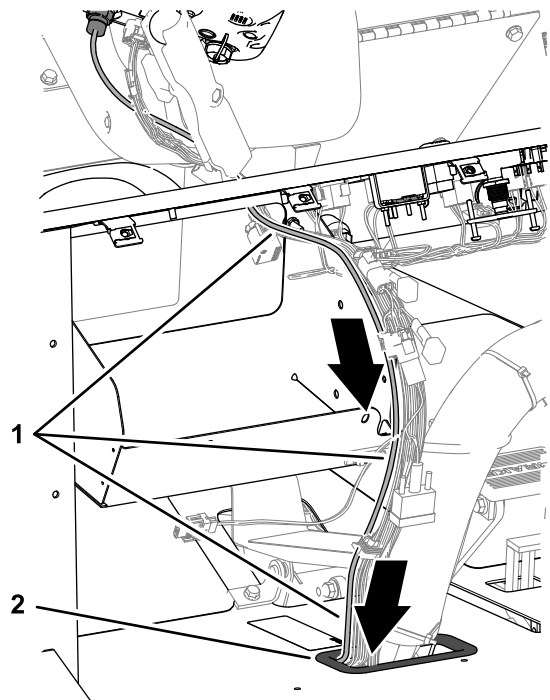

**Figure 159**
1. Route the modem data cable through the storage compartment (Figure 159).